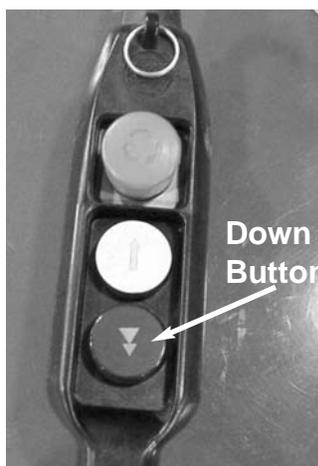

Figure 24
**IMPORTANT:** The down button is a two-position switch. (See Figure 24.) Partially depressing this button releases the hydraulic pressure allowing the machine to lower. Fully depressing this button releases the hydraulic pressure and activates the pneumatic cylinder to raise the safety lock arm above the lock arm stops.